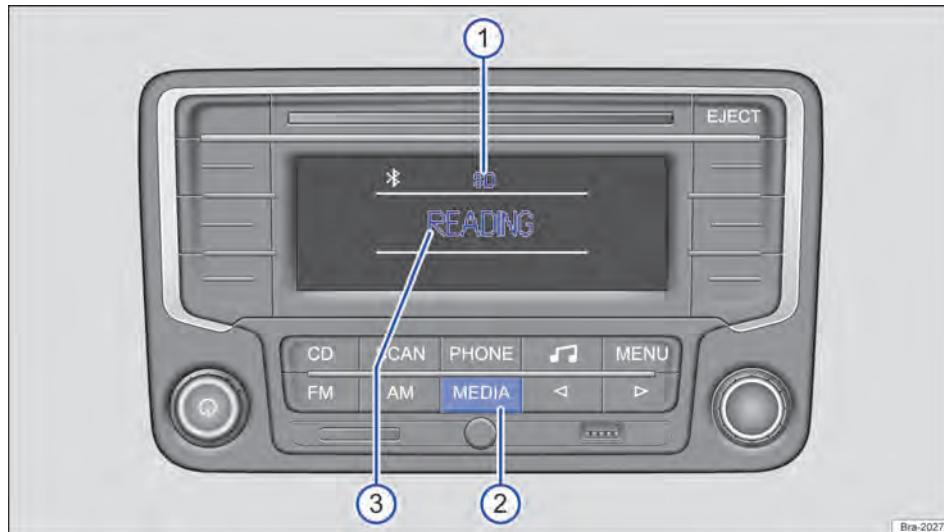
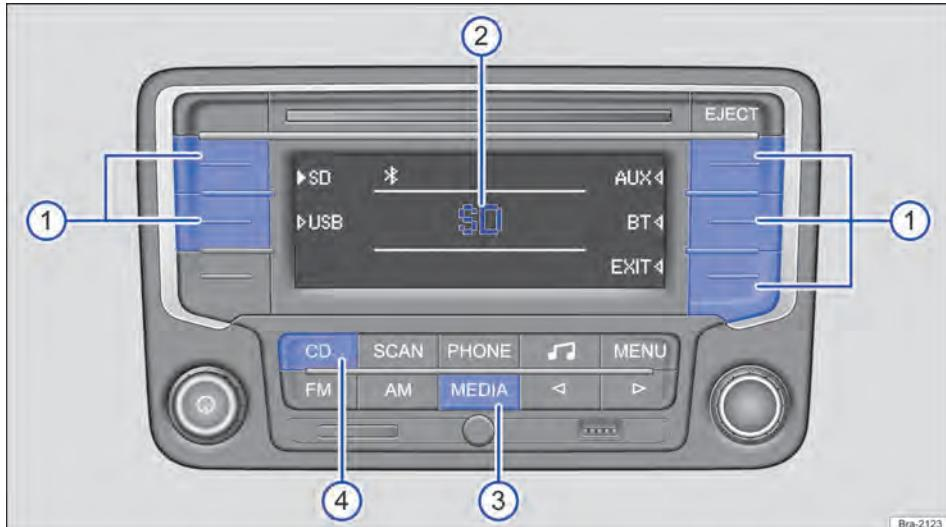

Fig. 143 Example of media playback display: the radio reads files in an SD card.
Fig. 144 Media playback display example: playback of the last media source is resumed; other media sources cannot be selected.
Several media sources may be selected and controlled in media mode. To switch to media playback, briefly press the unit button **MEDIA** → Fig. 143 ②.
If the last media source played is still connected, this media source will be automatically played, and it will be briefly displayed on the centre of the screen when switching to media playback → Fig. 144 ②.
During media playback, the selected media source will always be displayed on the upper central area of the screen → Fig. 143 ①.
All available media sources → page 153, *Selecting media sources* are displayed on the side of the screen → Fig. 144. In some playback situations, for example, when the radio reads a media source, no media source can be selected → Fig. 143.
The current media source's status is displayed on the centre of the screen (e.g. READING, while the radio reads a media source → Fig. 143 ③, track information → page 155 or error messages:
Start media mode → page 152, *Main menu MEDIA*. If the last media source played is still connected, this media source will be automatically played, and it will be briefly displayed on the centre of the screen when switching to media playback → **Fig. 144 ②**.
All media sources available are displayed on the side of the screen → **Fig. 144**. Select the desired media source as follows:
- Briefly press the function button programmed with the desired media source → **Fig. 144 ①**.
– OR: press the unit button MEDIA as many times as necessary until the media source is displayed (except CD) → Fig. 144 ③ .
– OR: press the unit button CD to play a CD in the internal CD drive → Fig. 144 ④ .